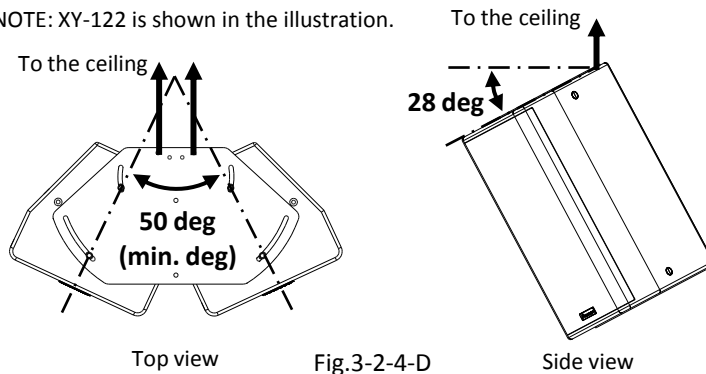

Fig.3-2-4-D
- (2) Remove the two mounting screws pre-inserted M10 on both edges of the top of the XY-122/152 enclosure.
- (3) Ensure the two commercially-available M10 eyebolts are secured to the mounting points on both edges of the top of the XY-122/152 enclosures to suspend it with wire as a secondary safety feature. (Fig.3-2-4-E)